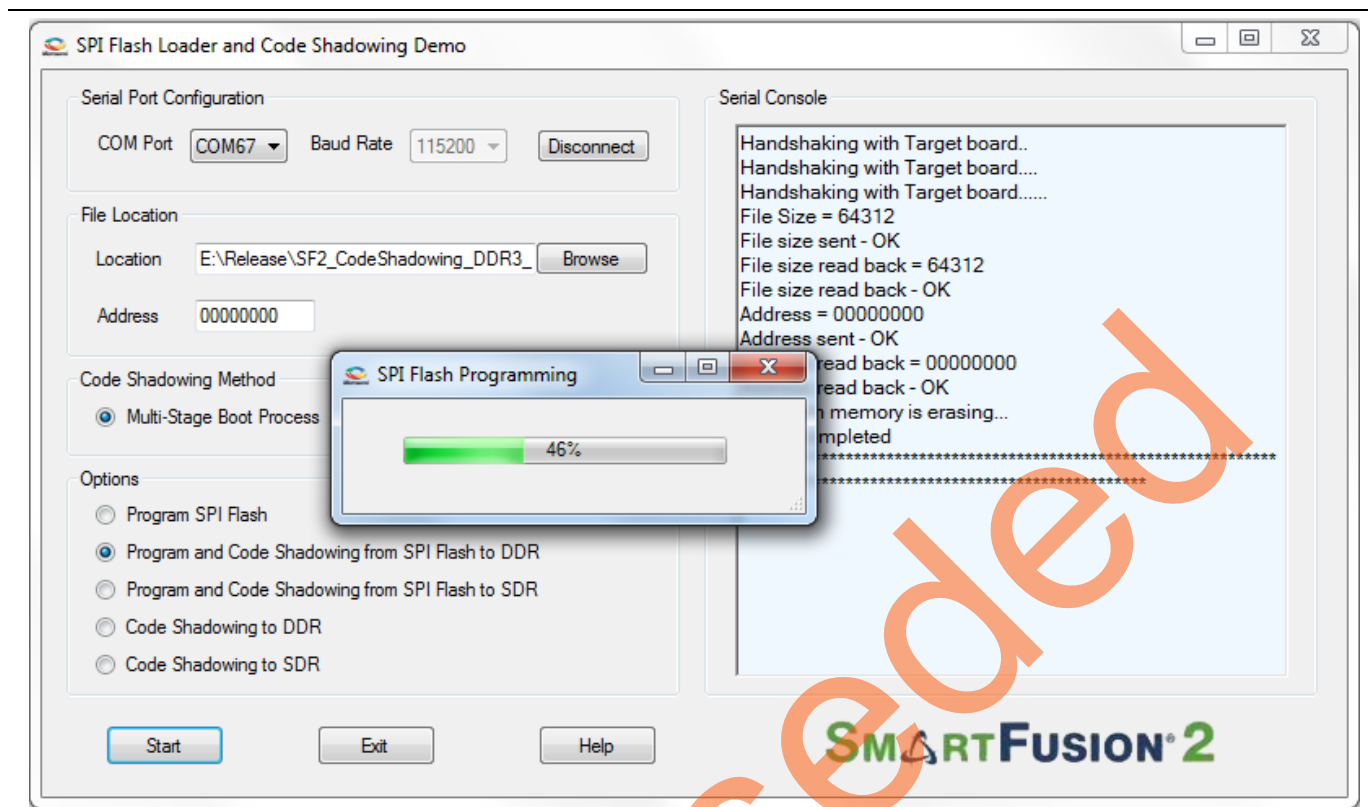

Figure 12. Flash Loading
11. The Serial Console section on the GUI shows the debug messages and starts programming SPI flash on successfully erasing the SPI flash. Figure 12. shows the status of SPI flash writing